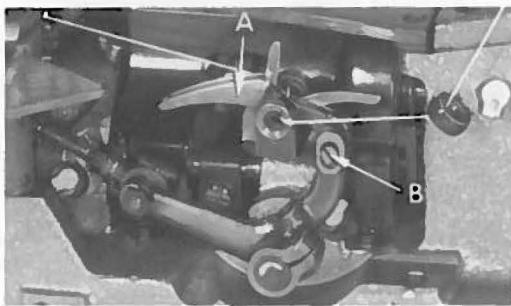

Fig. 7
On Styles 80800 E and H, adjust the height of the looper thread take-up (A, Fig. 7) by loosening screw (B) so the point of the descending needle is approximately  $1/8$  inch below the lower edge of the looper at the time the cast-off forces the looper thread over the corner of the take-up. This adjustment can be made by drawing the looper thread into the machine and noting the location of the needle point at the time the cast-off forces the looper thread over the corner. Retighten screw.